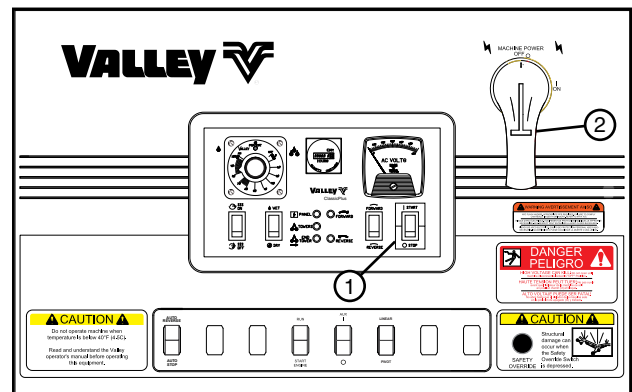

Figure 27-2 1. START-STOP Switch
1. Press the START-STOP switch to the STOP position. See Figure 27-2.
2. Turn the main disconnect switch to the OFF position. See Figure 27-2.